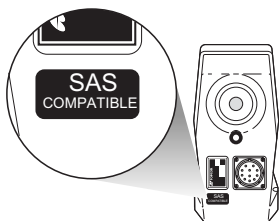

Figure 41. SAS Compatibility Label
5. Non-SAS compatible tracker attached to cable. Verify tracker has SAS compatible decal near S/N label (Figure 41).